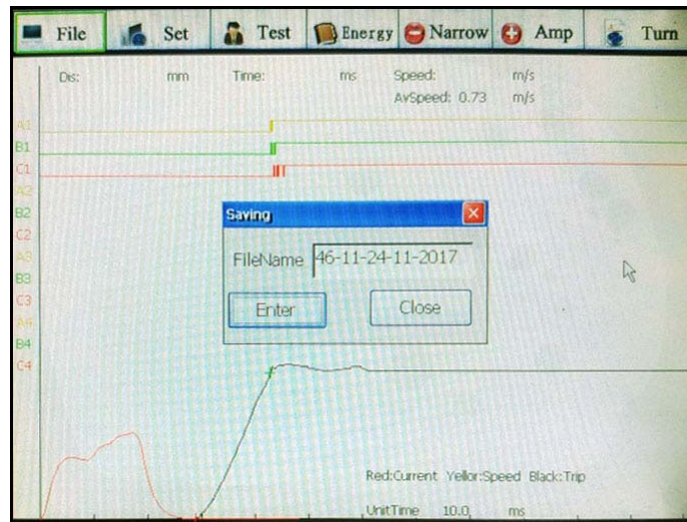

Figure 17
3. SAVE: save the test data. As shown below (figure 17):